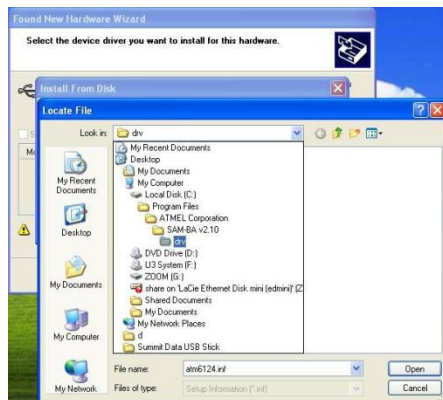

Figure 2: Installing the AT91 Driver
- f. Navigate to C:\Program Files\ATMEL Corporation\SAM-BA v2.10\drv (Figure 2).